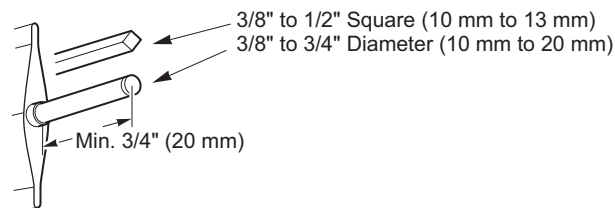
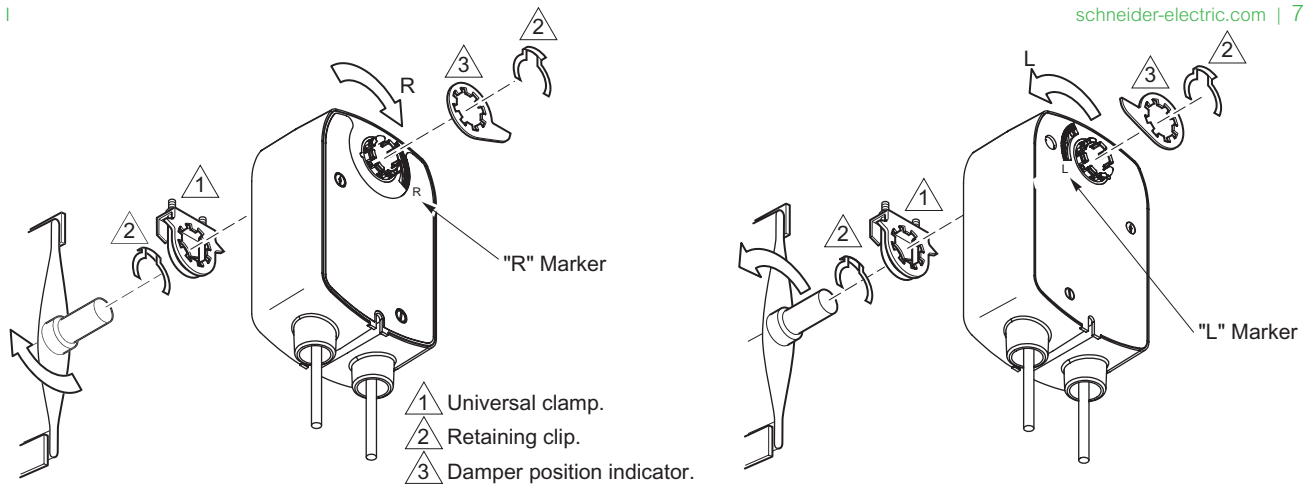

Figure-9 Short Damper Shaft Dimensions.
Figure-10 Short Damper Shaft with Clockwise or Counterclockwise Spring Return.
Refer to Figure-9 for shaft dimensions, and to Figure-10 for mounting.
1. Determine the best orientation for the universal clamp on the back of the actuator. The best orientation provides the easiest access to the two nuts on the V-clamp (Figure-10).
4. Place the position indicator on the actuator and secure it with the retainer clip. Make sure the position indicator is at its before pre-load position (Figure-10).